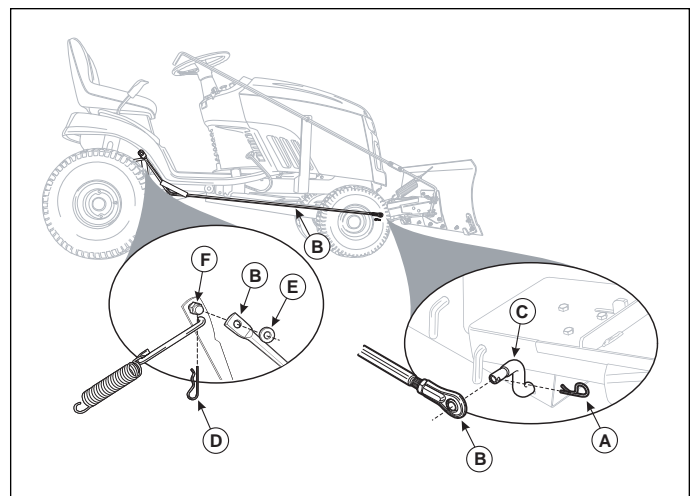

Figure 17. Control Arm Removal
4. Remove the bell crank hair pin (A, Figure 17) and remove the snow blade lift arm (B) from the bell crank (C).
5. Remove lift arm (B) from the mower deck lift arm by removing the hairpin cotter pin (D) from the stand off (F). Fully remove the snow blade lift arm (B) from the tractor.